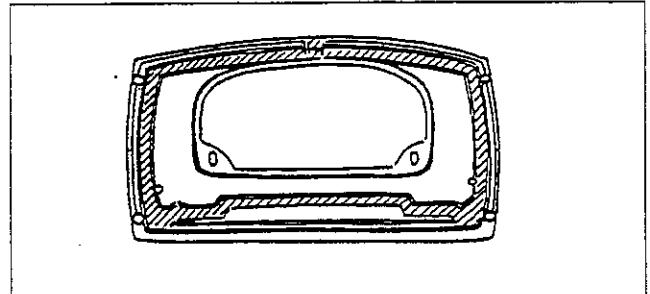

Figure 10. Top (underside)
12. Put 1-1/2" threaded stems into the two holes at the rear corners of the underside of the stove top. Apply stove cement to the grooves around the underside of the stove top, and to the rear edges of the stove sides. (**Figure 10**).